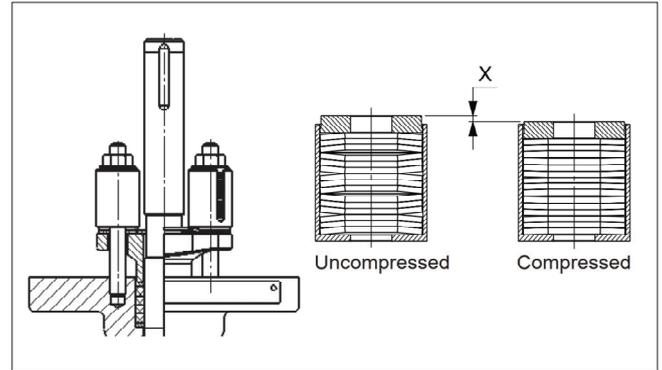

Fig. 14 High performance live-loading
- For the high performance live-loading option (Figure 14), pre-compress the gland packing by X length until the top cap reach the shell holder (housing) to ensure proper force in use.